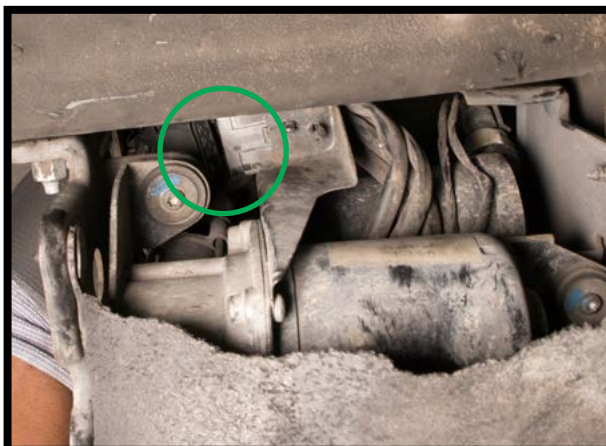

FIGURA 5
7. INDIVIDUARE E SCOLLEGARE IL CONNETTORE ELETTRICO DALLA PARTE SUPERIORE DELL'AMMORTIZZATORE. (FIGURA 5)